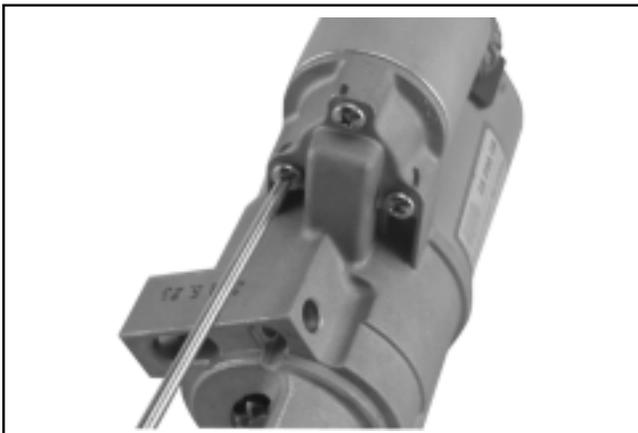

Figure 8-66. Installing Solenoid Screws.
- Hook the plunger behind the upper end of the drive lever, and install the spring into the solenoid. Insert the three mounting screws through the holes in the drive end cap. Use these to hold the solenoid gasket in position, then mount the solenoid. Torque the screws to **4.0-6.0 N·m (35-53 in. lb.)**. See Figure 8-66.